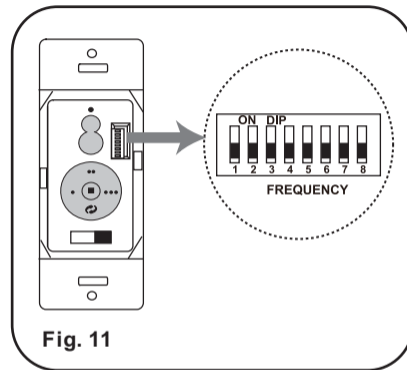

Fig. 11
**NOTE:** The Aire Control™ System is equipped with a learning frequency function which has 256 code combinations to prevent potential interference from other remote units. The frequency on your Receiver and Transmitter units have been preset at the factory. (Fig. 11) No frequency change is necessary, should you desire to install another fan within the same home or area with a seperate frequency code please see the "frequency interference" troubleshooting section of this instruction manual to learn how to change the frequency.